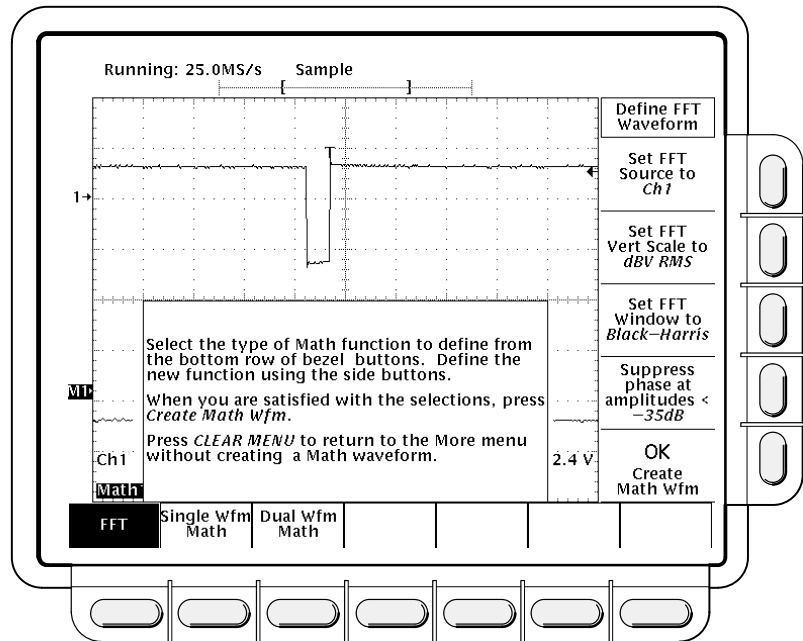

Figure 3-21: Define FFT Waveform Menu
5. If the selected math waveform is not FFT, press **Change Math Definition** (side) → **FFT** (main). See Figure 3-21.